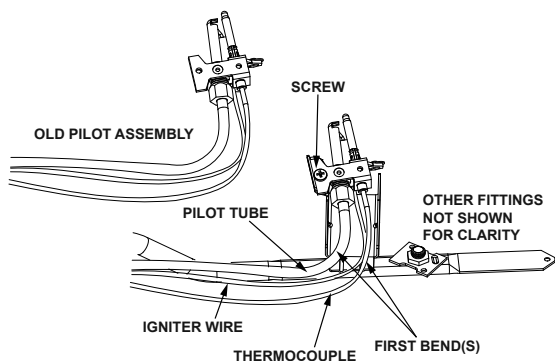

FIGURE 36.
- Remove and keep the screw securing the pilot assembly to the pilot bracket. (Figure 36)
- Using the old pilot tube as a guide, bend the new pilot tube to match the old one. **NOTE:** Make only the bends closest to the pilot before going to the next step. (Figure 36)